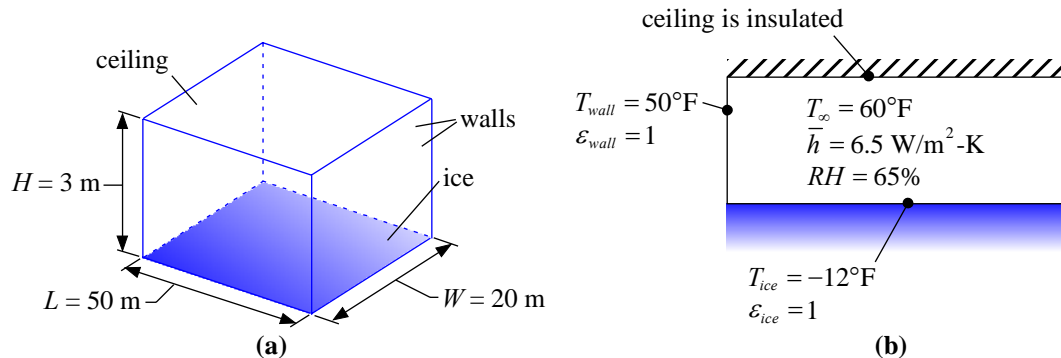

Figure P10.6-10: (a) A rectangular ice skating rink and b) details about the ice, walls and ceiling.
10.6-10 Figure P10.6-10 illustrates an ice skating rink that can be modeled as a large rectangular building with a floor space that is  $L = 50$  m x  $W = 20$  m and a ceiling that  $H = 5.0$  m high.